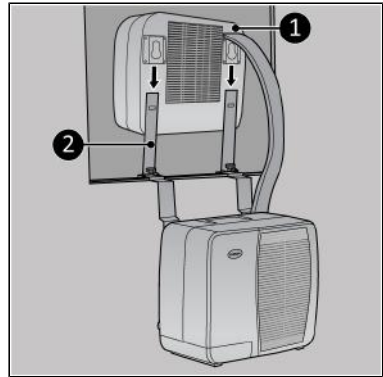

Figure 26.
- Slide the indoor unit over the top caravan brackets (Figure 26, pos. 2).